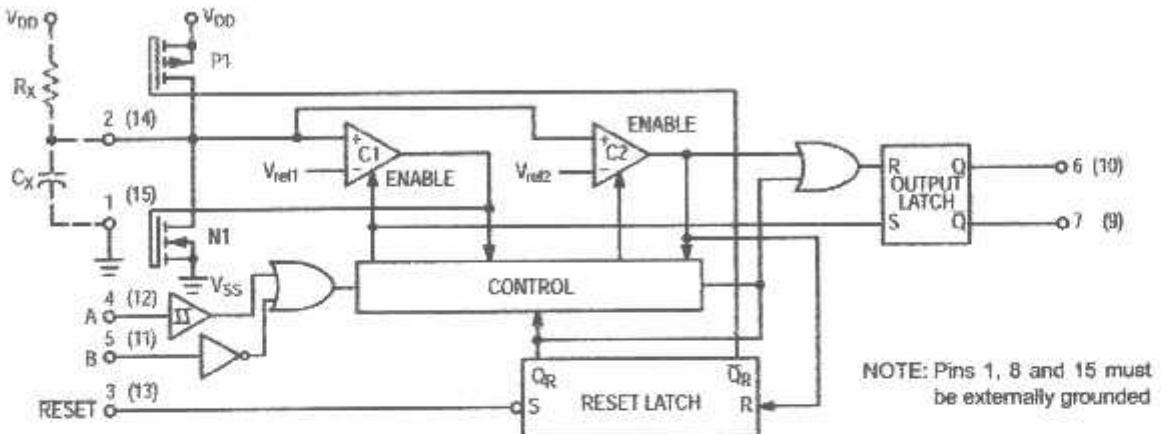

Figure 1. Logic Diagram
The block diagram of the MC14538B is shown in Figure 1, with circuit operation following.
As shown in Figure 1 and 10, before an input trigger occurs, the monostable is in the quiescent state with the Q output low, and the timing capacitor  $C_X$  completely charged to  $V_{DD}$ . When the trigger input A goes from  $V_{SS}$  to  $V_{DD}$  (while inputs B and Reset are held to  $V_{DD}$ ) a valid trigger is recognized, which turns on comparator C1 and N-channel transistor N1. At the same time the output latch is set. With transistor N1 on, the capacitor  $C_X$  rapidly discharges toward  $V_{SS}$  until  $V_{ref1}$  is reached. At this point the output of comparator C1 changes state and transistor N1 turns off. Comparator C1 then turns off while at the same time comparator C2 turns on. With transistor N1 off, the capacitor  $C_X$  begins to charge through the timing resistor,  $R_X$ , toward  $V_{DD}$ . When the voltage across  $C_X$  equals  $V_{ref2}$ , comparator C2 changes state, causing the output latch to reset (Q goes low) while at the same time disabling comparator C2. This ends at the timing cycle with the monostable in the quiescent state, waiting for the next trigger.